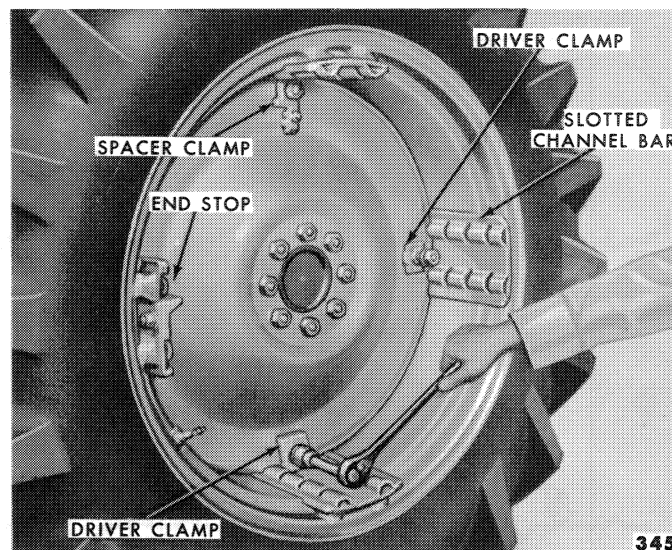

Figure 10—Preparing to Adjust Wheel
1. Position the wheel so that the spacer clamp is at the top of the wheel as shown in Figure 10.
2. Loosen the nut on each of the three locking clamps, Figure 10. Slide the clamps toward the hub of the wheel and then tighten the nuts to hold the clamps in this retracted position.